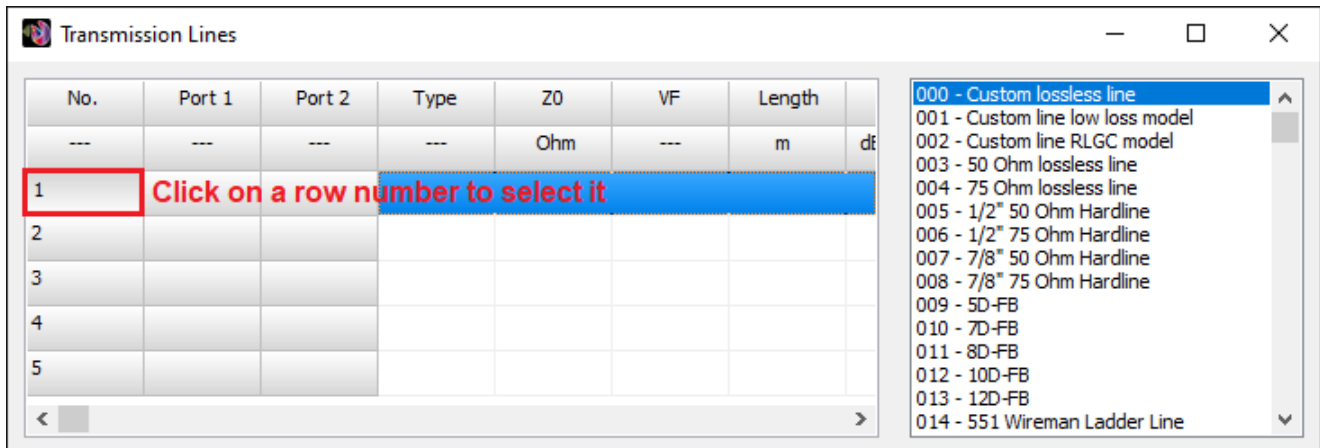

Fig. 2: Table for entering transmission lines. Rows are numbered. Click on a row number to select the entire row.
1. Select a row by clicking on the row number of your choice in the first column labeled 'No.', Fig. 2.